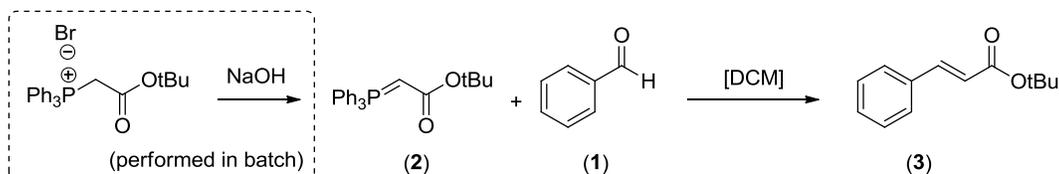

Figure 1: Wittig reaction scheme
The phosphonium ylide reagent is prepared in batch, by deprotonation of the corresponding Wittig salt. In continuous flow, an aldehyde (1) and a phosphonium ylide (2) are introduced into the microreactor, where they react to form the corresponding unsaturated Wittig product (3). The Wittig reaction is an example of a very selective reaction, producing no side products. However, the formed double bond can take two configurations: the *cis* (Z) and the *trans* (E) form. The latter is shown in Figure 1.